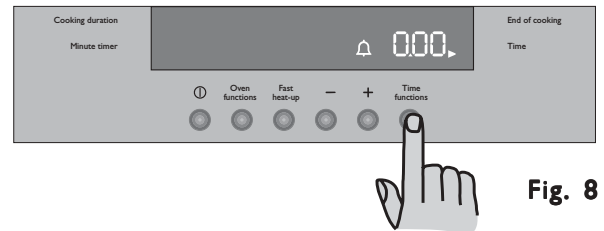

Fig. 8
- 1) Press button Time functions to select the Minute Minder function (Fig. 8). The relevant  symbol will flash and the control panel will display "0.00".